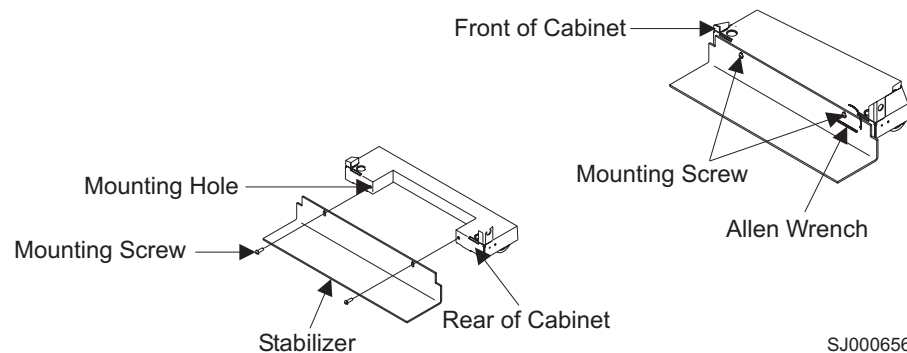

Figure 3. Stabilizers
1. Align the slots in the stabilizer with the mounting holes at the bottom front of the cabinet. See Figure 3.